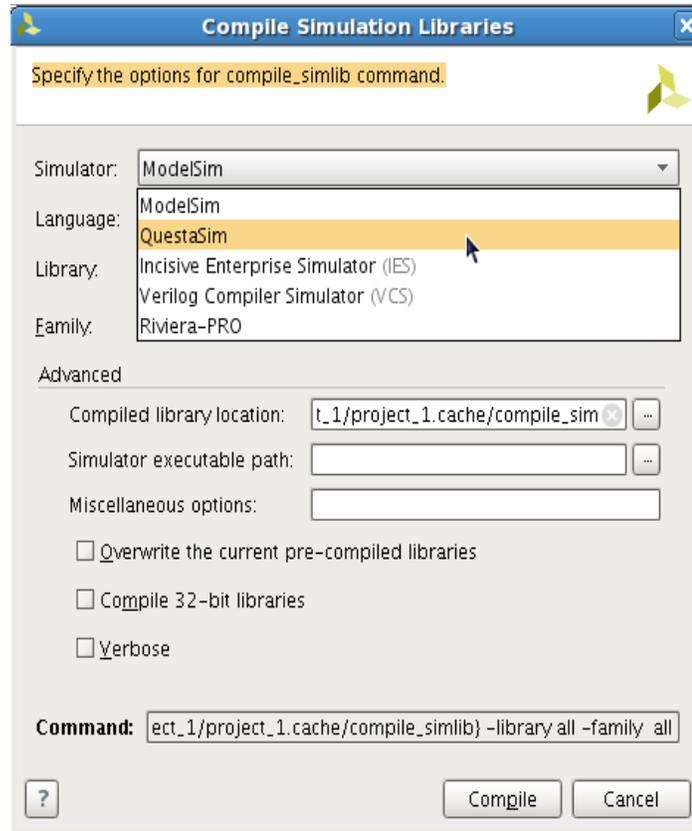

Figure 8-2: Compile Simulation Libraries Dialog Box
1. In the **Tools**, click **Compile Simulation Libraries** to open the dialog box shown in Figure 8-2.
TIP: At the bottom of the *Compile Simulation Libraries* dialog box, there is a field labeled *Command* (shown in Figure 8-2, above). The value of the *Command* field changes based on the options you select. You can use the value of the *Command* field to generate a simulation library in Tcl/non-project mode.